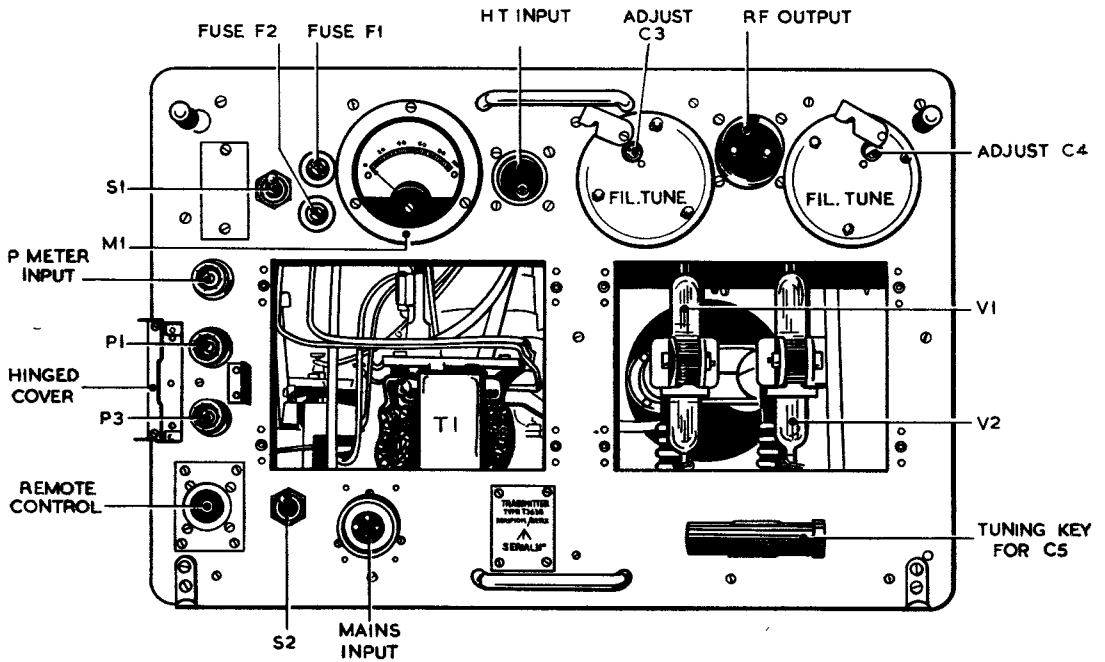
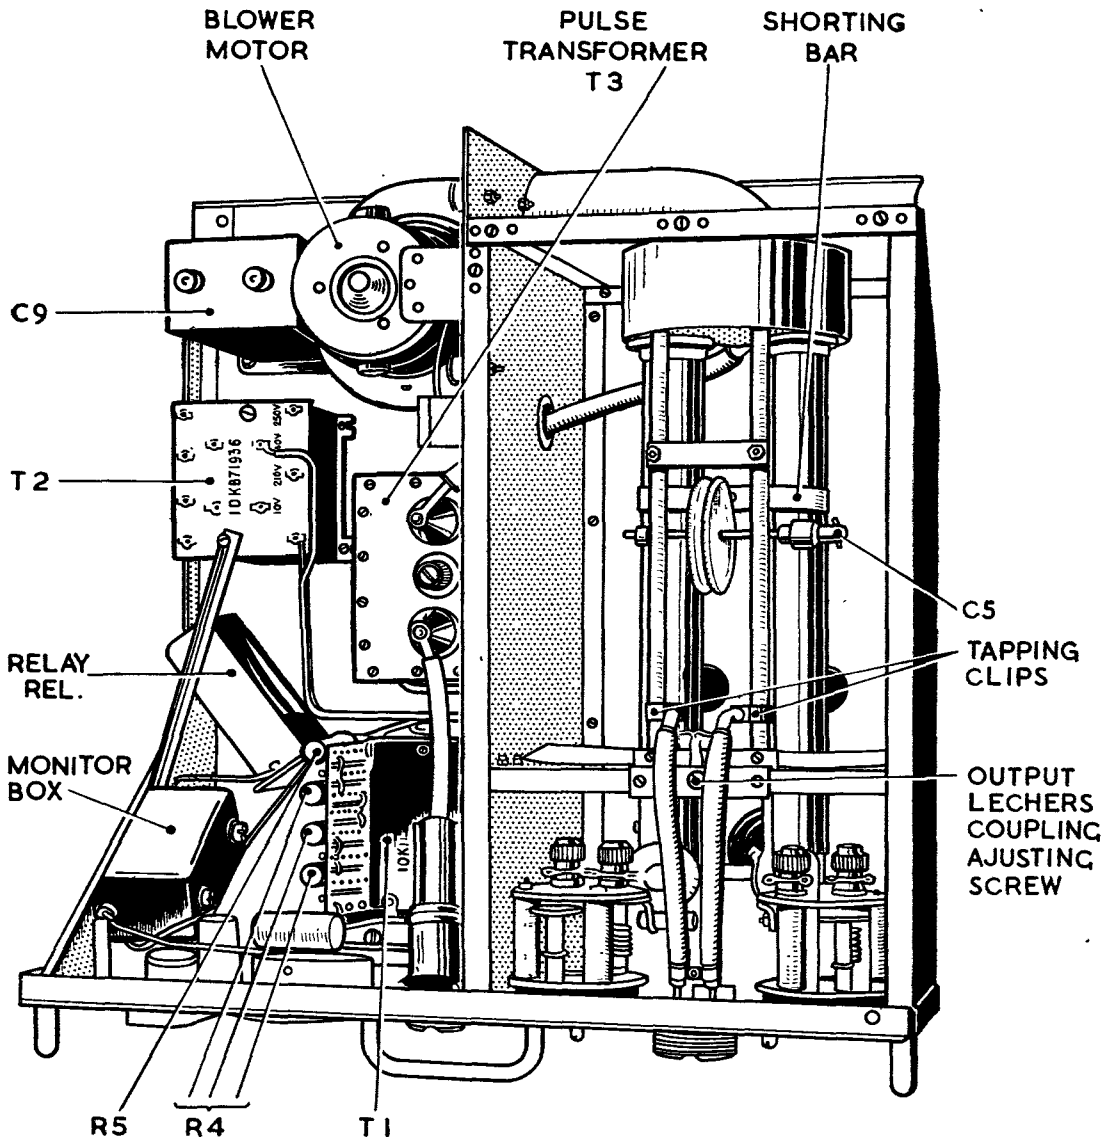

Fig. 15. Transmitter Type T.3638 : front panel
Fig. 16. Transmitter Type T.3638 : interior
Preliminary adjustment (fig. 16)
- (1) Verify that the mains input leads are connected to the 0 and 230V tags on transformer T2 at the centre left of the chassis (*fig. 16*).
- (2) Check that the pulse transformer T3 (centre right of the chassis) is out of circuit, and that the HT input is taken to a stand-off insulator on the side of the oscillator compartment.
- (3) Remove the screws securing the lid of the oscillator compartment and slide the anode lechers shorting bar about half way along the lechers.
- (4) Adjust the spacing between the plates of the output lechers tuning condenser (C5) to be about $\frac{3}{8}$ in. to $\frac{1}{2}$ in.
- (5) Insert a screwdriver through one of the holes marked FIL TUNE on the front panel (*fig. 15*); turn the control fully counter-clockwise and then back $1\frac{1}{2}$ turns; do the same with the other control.
- (6) Set the tapping clips on the output lechers (*fig. 16*) so that the edges of the clips nearer the valves are $\frac{3}{8}$ in. from the output lechers shorting bar.
- (7) Set the output lechers coupling screw (*fig. 16*) about halfway; i.e., about three turns from either extreme.
- (8) Replace the transmitter on the runners without its dust cover. Reconnect the mains and aerial leads.
56. Turn the MAINS switch to its ON position (*fig. 15*); the blower motor should then be heard and the oscillator valve filaments should light. Now proceed as follows :—
C4 and C5 (*fig. 15 and 16*) to give a substantially square pulse envelope of maximum amplitude. The pulse width should be about 2 microseconds; it can be checked with the calibration facilities offered by monitor Type 33.